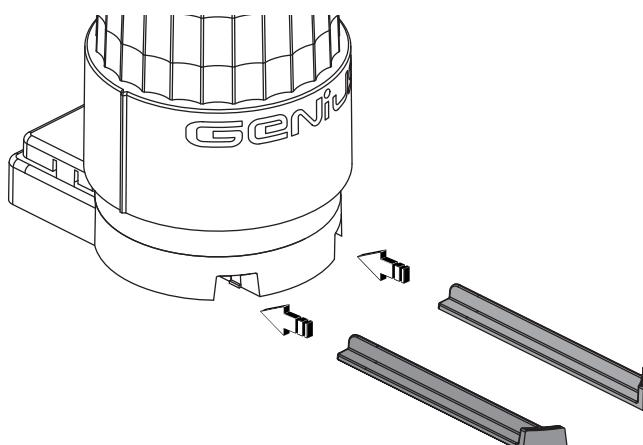

Fig. 11
13. Install the two front slides (Fig. 11).